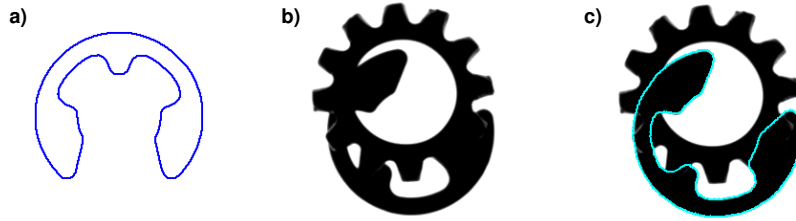

Figure 12: Searching for partly occluded objects: a) model of the security ring; b) search result for `MinScore` = 0.8; c) search result for `MinScore` = 0.7.
With the parameter `MinScore` you can specify how much of the object — more precisely: of the model — must be visible. A typical use of this mechanism is to allow a certain degree of occlusion as demonstrated in figure 12: The security ring is found if `MinScore` is set to 0.7.
- Parts of the object’s contour are occluded, e.g., as in figure 12.